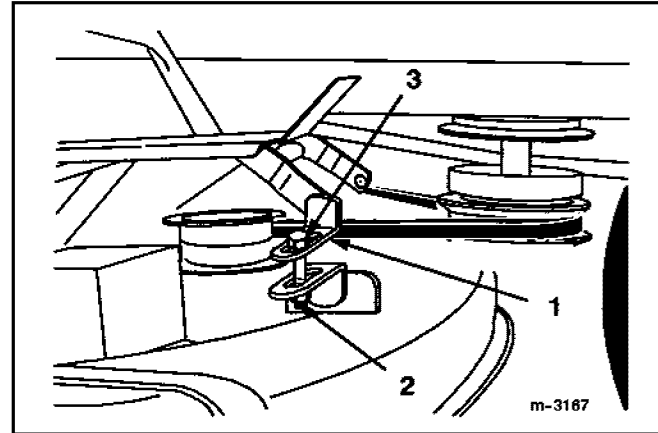

Figure 57
1. To adjust the front-to-rear pitch, loosen jam nut on front adjustable link. **Note:** The 42-inch (106.6cm) mower comes with one adjustable link standard, although someone could have installed a second one. The 48-inch and 52-inch (121.9cm and 132.0cm) models have two adjustable links (Figure 57).